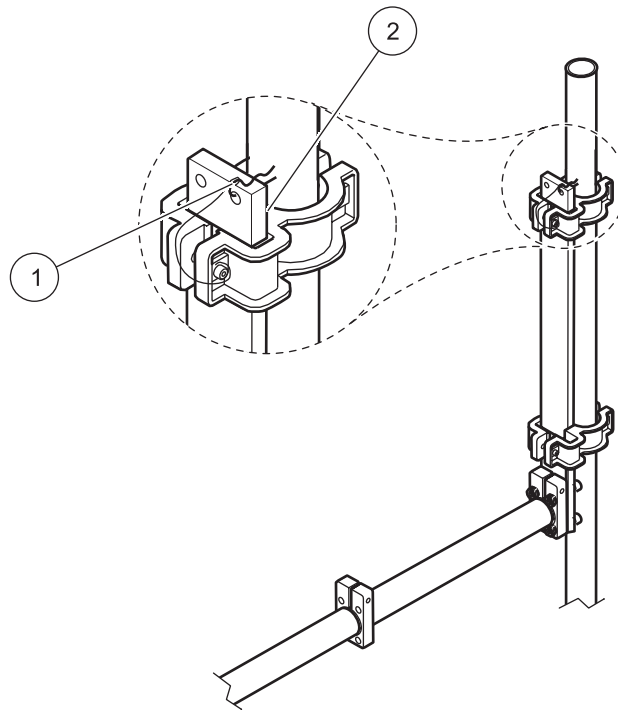

Figure 13 Securing the mounting pipe
- 11. Undo one of the screws on the top bracket and fit a strap for a spring locking pin (Figure 13 on page 11). Tighten the screw.